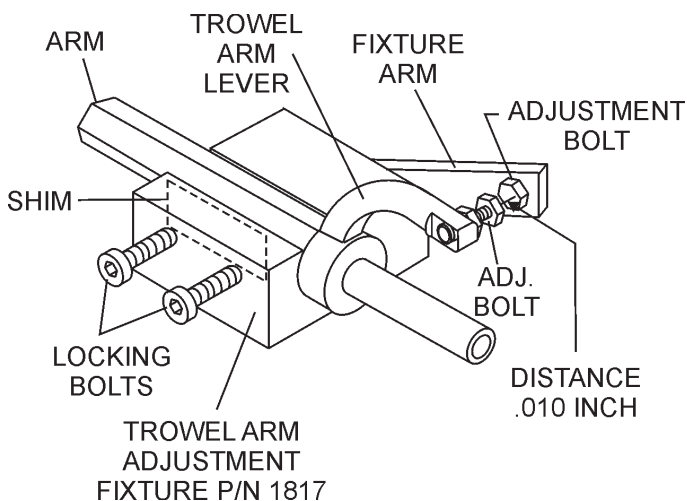

Figure 47. Trowel Arm Adjustment Fixture Components
3. Unscrew the locking bolts on the adjustment tool and place the trowel arm into the fixture channel as shown in Figure 47. A **thin shim** may be required to cover the blade holes on the trowel arm. Make sure to align the **trowel** adjustment bolt with the **fixture** adjustment bolt.